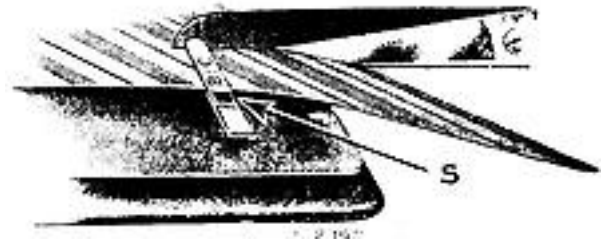

FIG. 28
The bias gauge may be used by placing it on the point of a pair of scissors, as below, and different widths of material may be cut by adjusting the slide (S. Fig. 28,). Bias binding for binder No. 36595 should be cut fifteen-sixteenths of an inch wide if muslin or similar fabrics are used, and to do this the slide (S) should be placed half way between the lines marked "F" and "B." The edge of the goods should be passed through the attachment and against the slide while cutting. When binding with fine, soft or flimsy materials, cut the bias binding a suitable fraction wider.